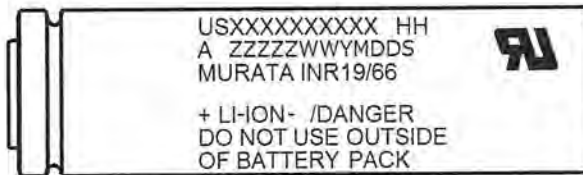

Fig.1
5.2 Model Name(Fig.1 : USXXXXXXXXXX)
5.3 Factory(Fig.1 : A for factory code)
5.4 Specification(Fig.1 : HH for Cell Type)
5.5 Lot Number(Fig.1: YMDDS for Manufacturing Date of Cells)